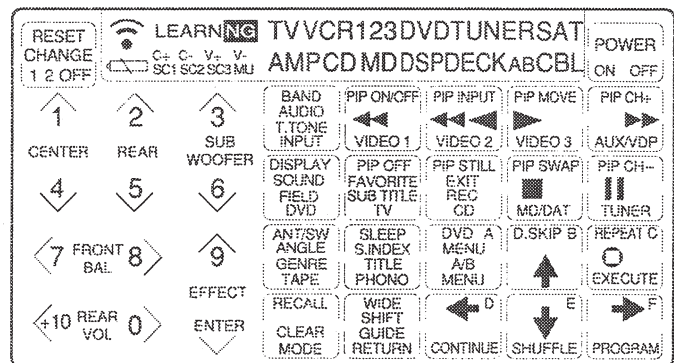

Fig. 1-2
- 2) After sounding buzzer, remove all hands from pressing the all keys described in above step 1). The all indications of the LCD must be turned OFF. (Refer to Fig. 1-2.)